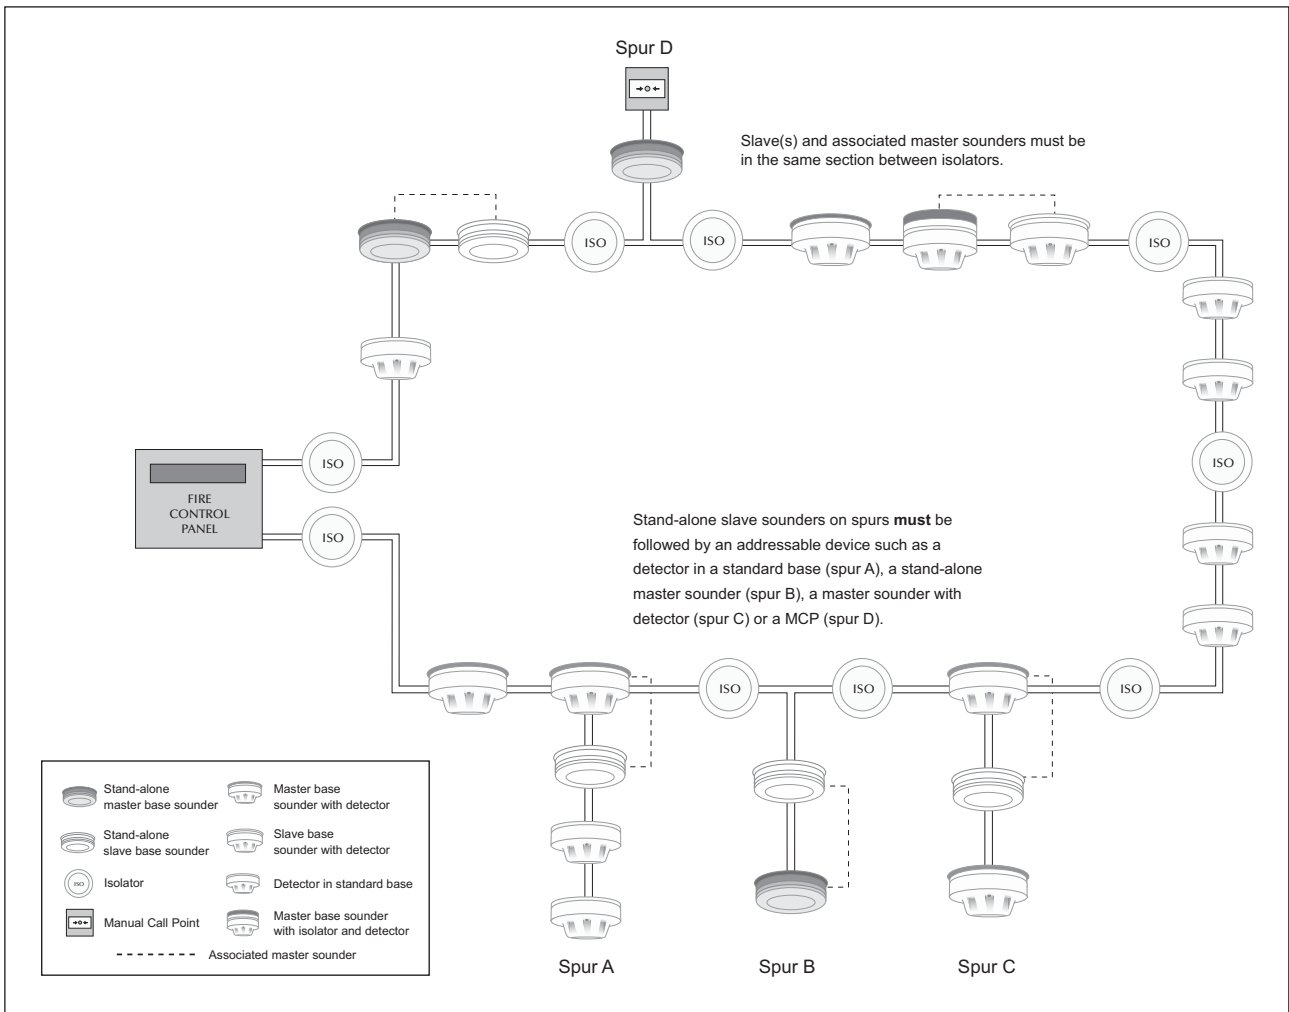

Fig 1 Diagram to show connection of master and slave sounders on loop and spurs
- to a spur providing an addressable device capable of signalling to the control panel is fitted to the end of the spur (Fig 1).